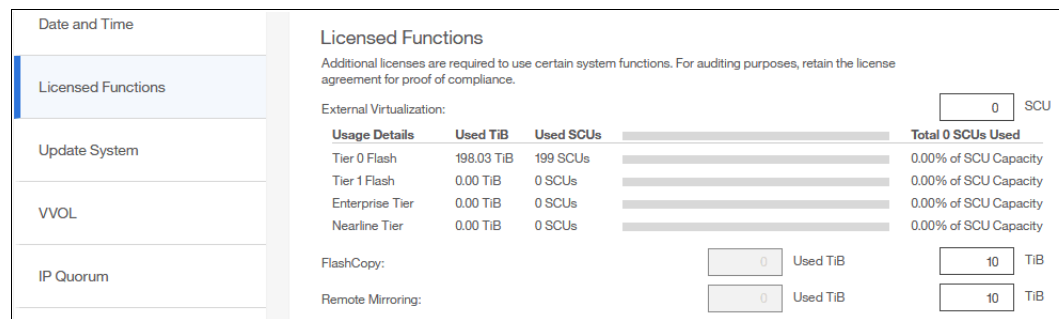

Figure 7-44 Licensing window
2. In the left column, select **License Functions**, as shown in Figure 7-44.